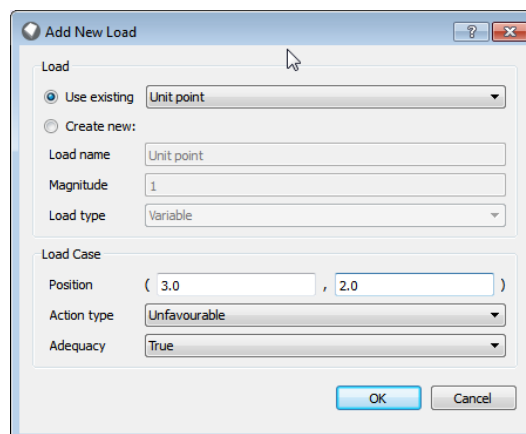

Figure 3.7: Adding a new (unit) point load to the model.
- ▷ Hover the pointer over the slab at position (3, 2) and click. This will bring up the **Add New Load** dialog (Figure 3.7).